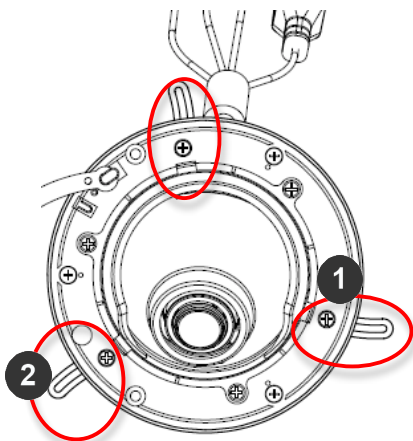

Figure 5: Tighten the lever screws
5. Tighten the “lever screws” until the flush mount is snug, as shown in Figure 5. The “Support Arm” will ride down the screw to compress the mounting surface.